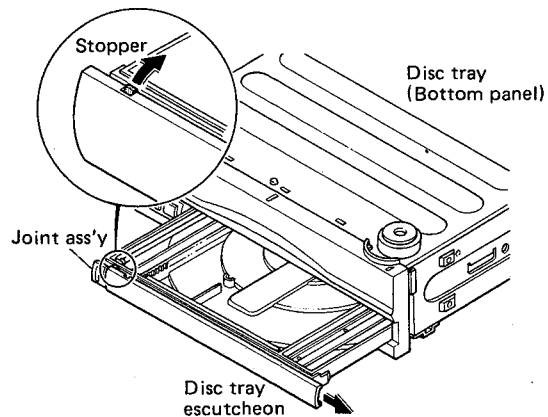

Fig. 2
3. Place the unit upside down, and remove the disc tray escutcheon by sliding it toward the right while pushing the stopper on the left end of the joint ass'y of disc tray using tweezers or a screwdriver. (Fig. 2)